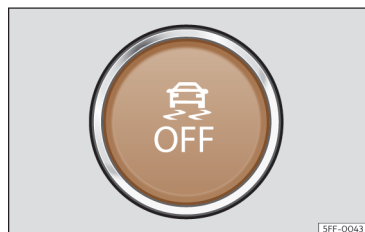

Fig. 126 On the lower part of the centre console: ESC on/off button
- In Sport mode, the ESC can be switched off and on by briefly pressing the  button on the centre console >>> **Fig. 126**.
- The ESC can be switched on and off by briefly pressing the  button on the centre console >>> **Fig. 126.**